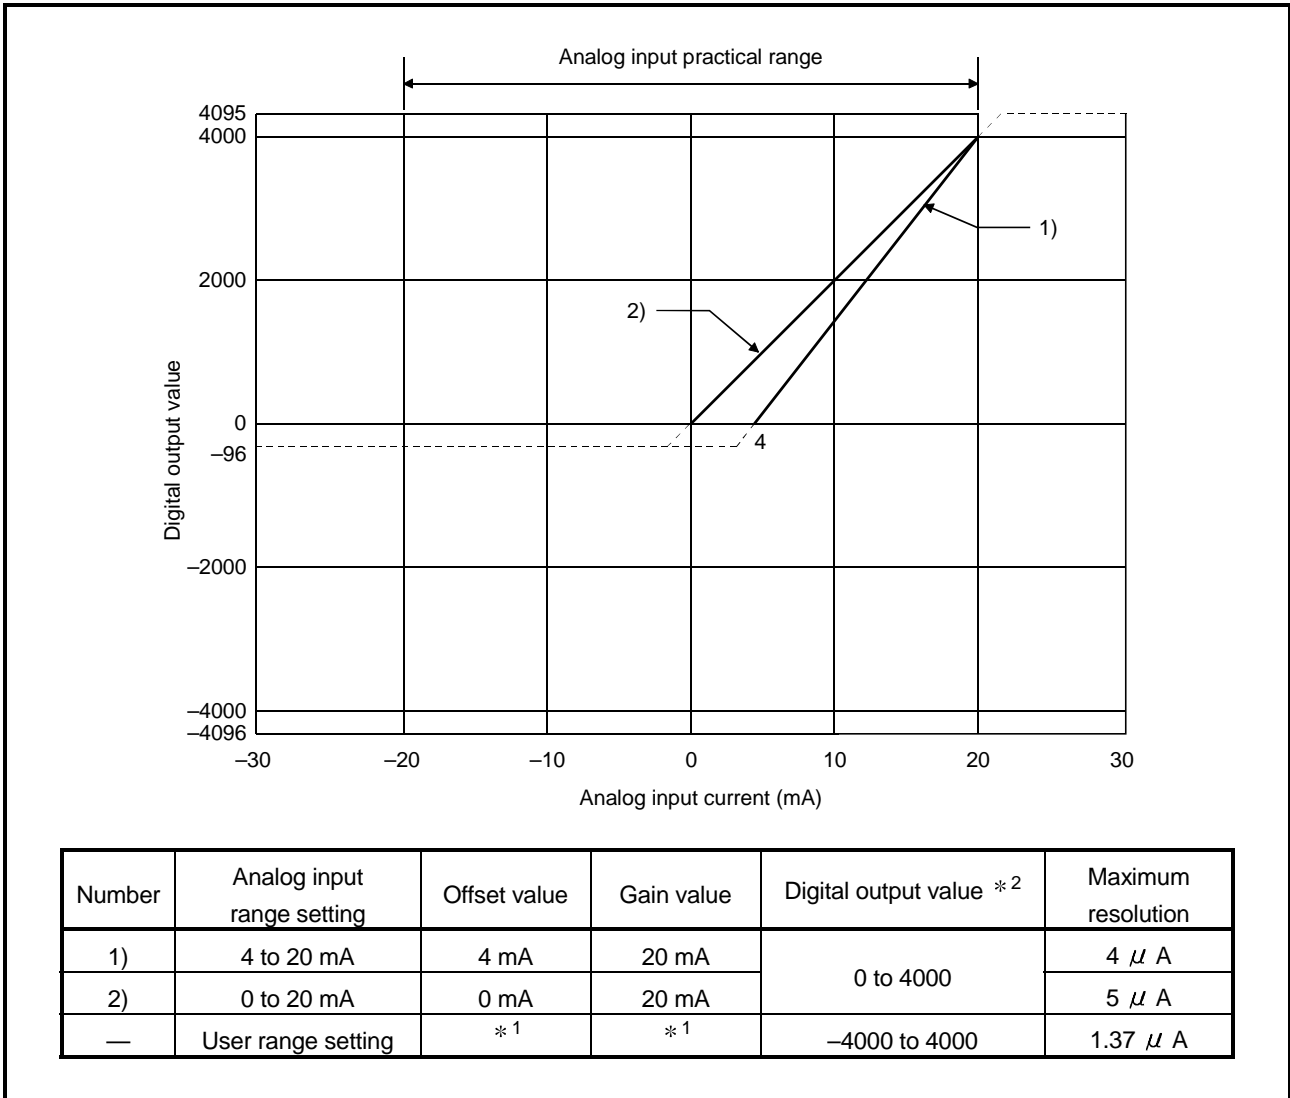

Figure 3.3 Current input characteristic in normal resolution mode
Figure 3.3 shows a graph of the current input characteristic in normal resolution mode.
(1)	Set within the analog input range and digital output range for each input range. If these ranges are exceeded, the maximum resolution and accuracy may not fall within the performance specifications. (Avoid using the dotted line area shown in Figures 3.3 and 3.4.)
(2)	Do not input an analog input current of more than ± 30 mA. A breakdown may result due to overheating.
(3)	Set the offset/gain values for the user setting range *1 within a range in which the following conditions are satisfied. { (Gain value) – (Offset value) } > A <Value of A>